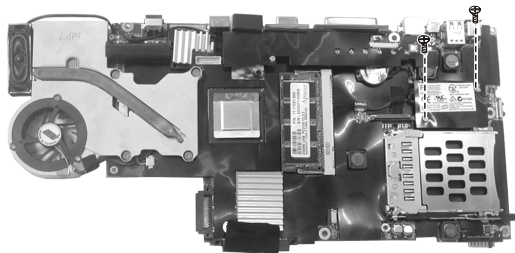

Figure 2-26 Remove two screws
3. Remove two screws fastening the modem card. (Figure 2-26)